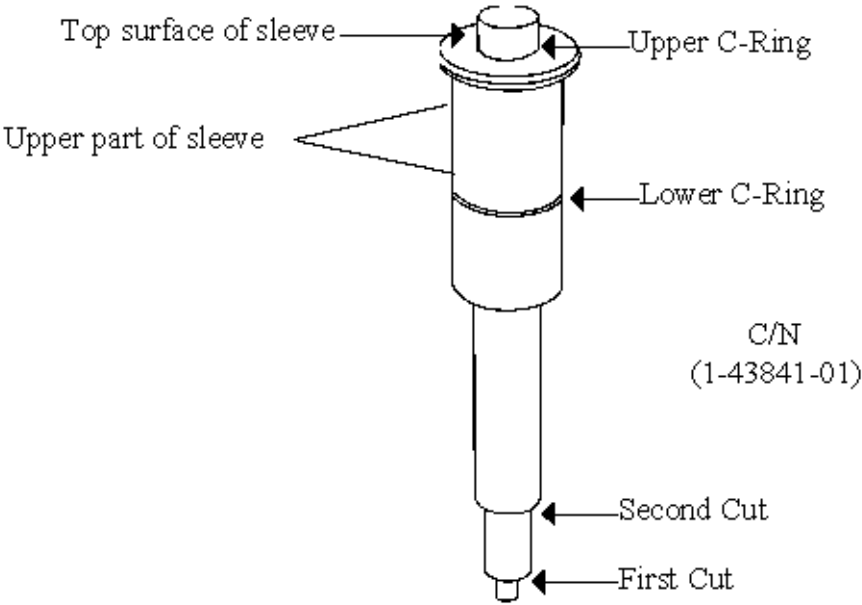

Figure 5-4. Alignment Tool
5. Remove the Pipette Nozzle Assembly and replace it with the sleeve portion of the Alignment Tool, Figure 5-4.
Insert the sleeve portion of the tool (Figure 5-4) into the nozzle holder assembly, then tighten down the Hex screw.
Make sure that the upper C-ring (Figure 5-4) is flush against the top surface of the sleeve.